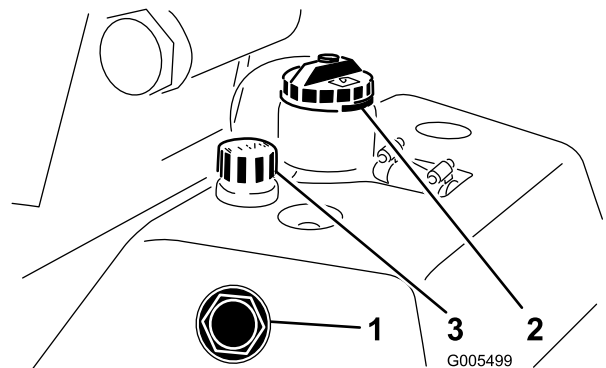

Figure 26
1. Position the machine on a level surface. Make sure the machine has cooled down so the oil is cold. Check the oil level by viewing the sight gauge on the side of the auxiliary oil tank (Figure 26). If the oil level is up to the Full mark next to the gauge, the oil level is sufficient.